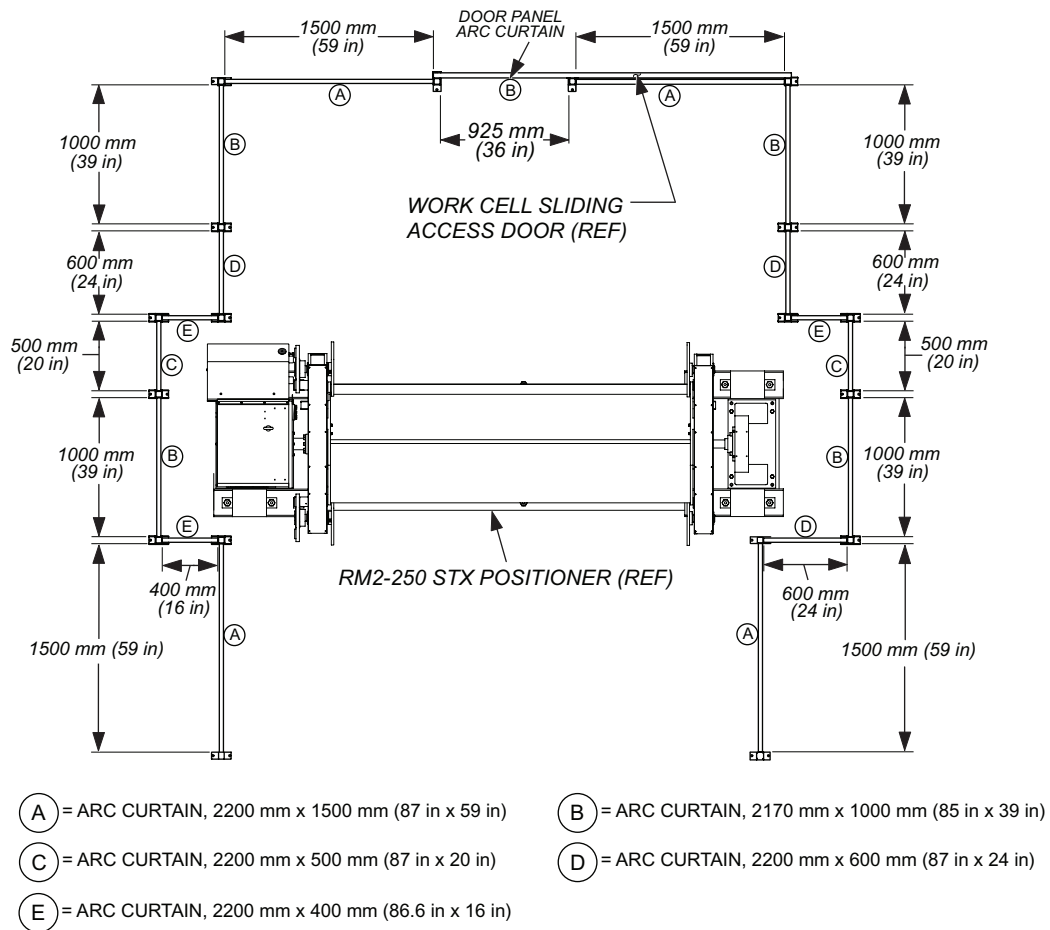
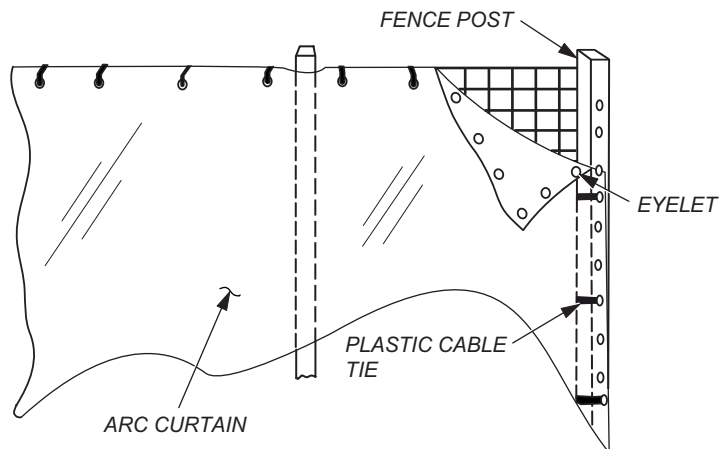

Figure 9 Safety Fence Panel Dimensions and Arc Curtain Installation Locations
Figure 10 Arc Curtain Installation on Typical Work Cell Safety Fence Panel
1. Unfold each arc curtain and install one arc curtain on the inside of each work cell safety fence panel, using supplied plastic cable ties and the eyelets in each arc curtain (see Figure 9 and Figure 10).
3. Install the door panel arc curtain on the inside of the door panel, using the supplied wire ties and the eyelets in the arc curtain (see Figure 9 and Figure 10).